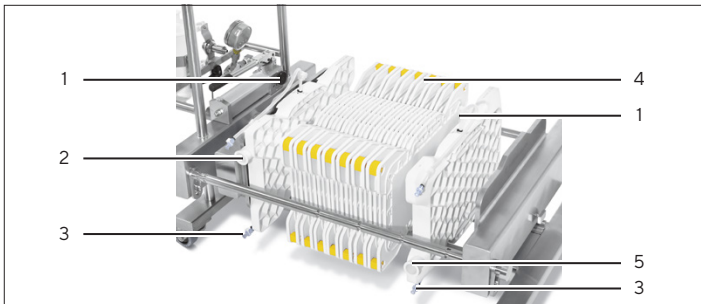

Fig. 5: Insert cassette(s) between the manifold inlet and outlet plates on the Pilot Filter Holder.
#### Procedure for Cassettes (see fig. 5)
- ▶ Unpack the manifold set containing 1 inlet (2) and 1 outlet (5).
- ▶ Place the cassettes (4, see Fig. 5) in the lowest possible position in the holder.
- ▶ The cassettes (4) used for chromatographic separation must originate from the same lot.
- ▶ Put the desired number of Sartobind® cassettes (4) between the manifolds (see Fig. 5).
- ▷ Close all DRAIN and VENT valves (1) of the manifold plates manually using the pinch clamp.